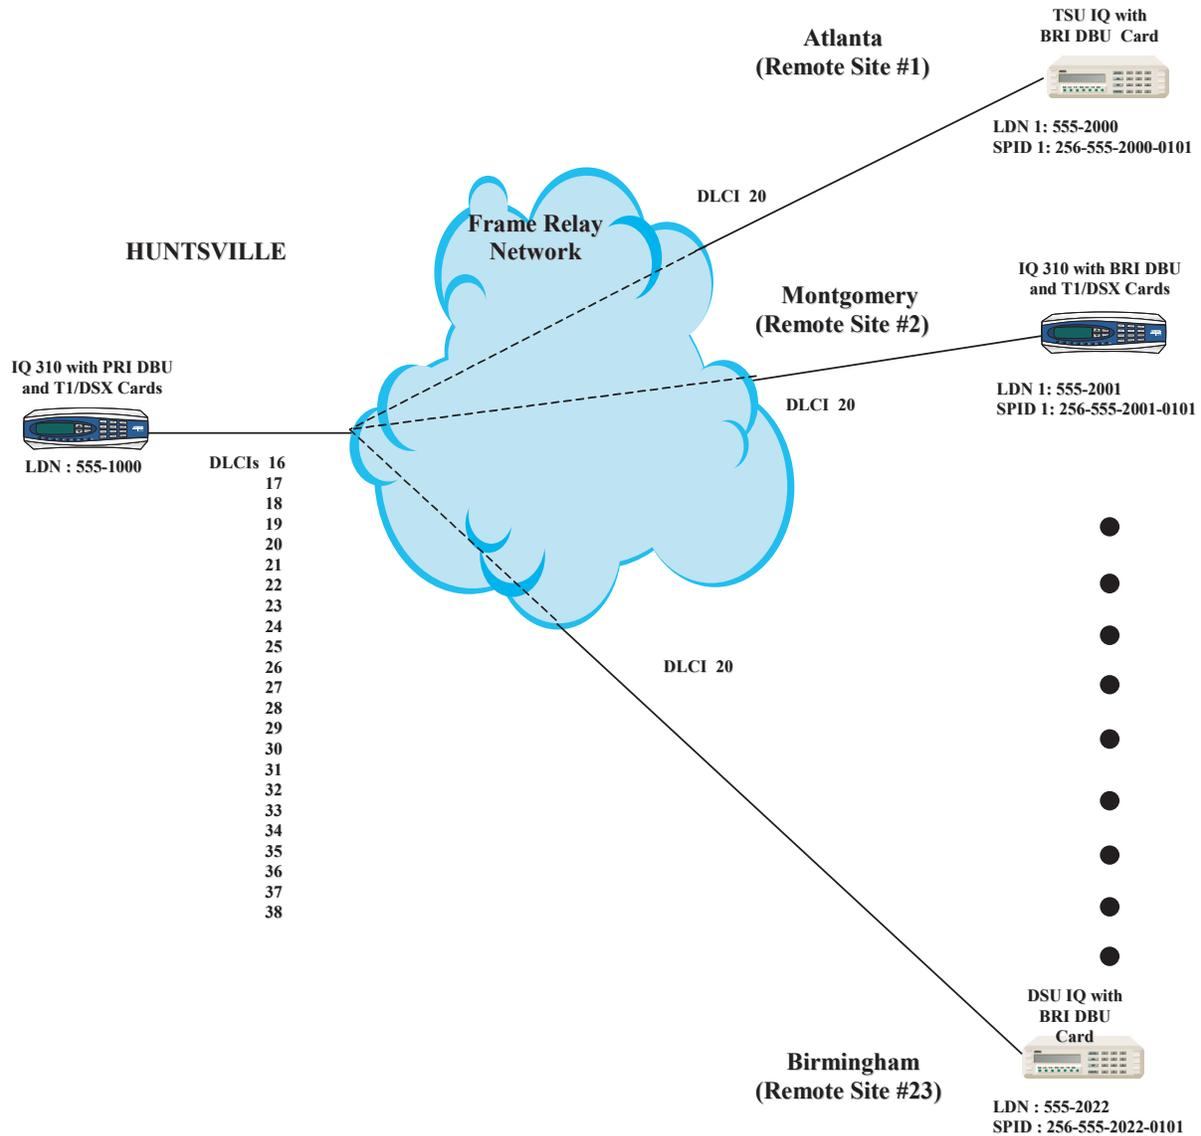

Figure 1. IQ 310 Frame Relay PRI Dial Backup Example Network
Figure 1 on page 182 is a diagram of the Frame Relay example network used in this configuration guide. In this example, the host site is Huntsville. Twenty-three Permanent Virtual Circuits (PVCs) originate from Huntsville. Three of the twenty-three remote sites are shown (Atlanta, Montgomery, and Birmingham). The twenty-three DLCIs used by the host site to communicate with these remotes are 16-38 (with 16 connecting to remote site 1, 17 connecting to remote site 2, etc.). All remote sites use DLCI 20 for communication with Huntsville. The remote site extensions begin with 555-2000 and increment by one digit ending with 555-2022 at remote site 23. For example, remote site two's extension will be 555-2001, remote site three's extension will be 555-2002, and so on. All SPIDs will use the 256-555-20XX-0101 format. All area codes for this example will be 256. Please remember DLCIs have local significance and are assigned by the Telephone Company (TELCO) when the Frame Relay network is built; therefore the DLCIs for your Frame Relay network will most likely be different from the ones used in this example.
The remaining parameters described in Figure 1 provide a description of the BRI lines that terminate into the remote units. The Telephone Company will provide you with the Local Directory Numbers (LDNs) and Service Profile Identifiers (SPIDs) for each of your BRI lines. In addition, you must know which type of Central Office (CO) switch is providing the ISDN service. The PRI unit will require one LDN, as shown in Figure 1.
13. Down arrow to select **SWITCH TYPE**; then press **<ENTER>**. A list of available switch types is displayed. *The switch type selected here must match the TELCO CO switch providing the ISDN service.* Select **LUCENT 5ESS**, **DMS 100**, or **NATIONAL**. For the example network in Figure 1, we will assume the switch type for all units is **NATIONAL**. Down arrow to select **NATIONAL**; press **<ENTER>**.